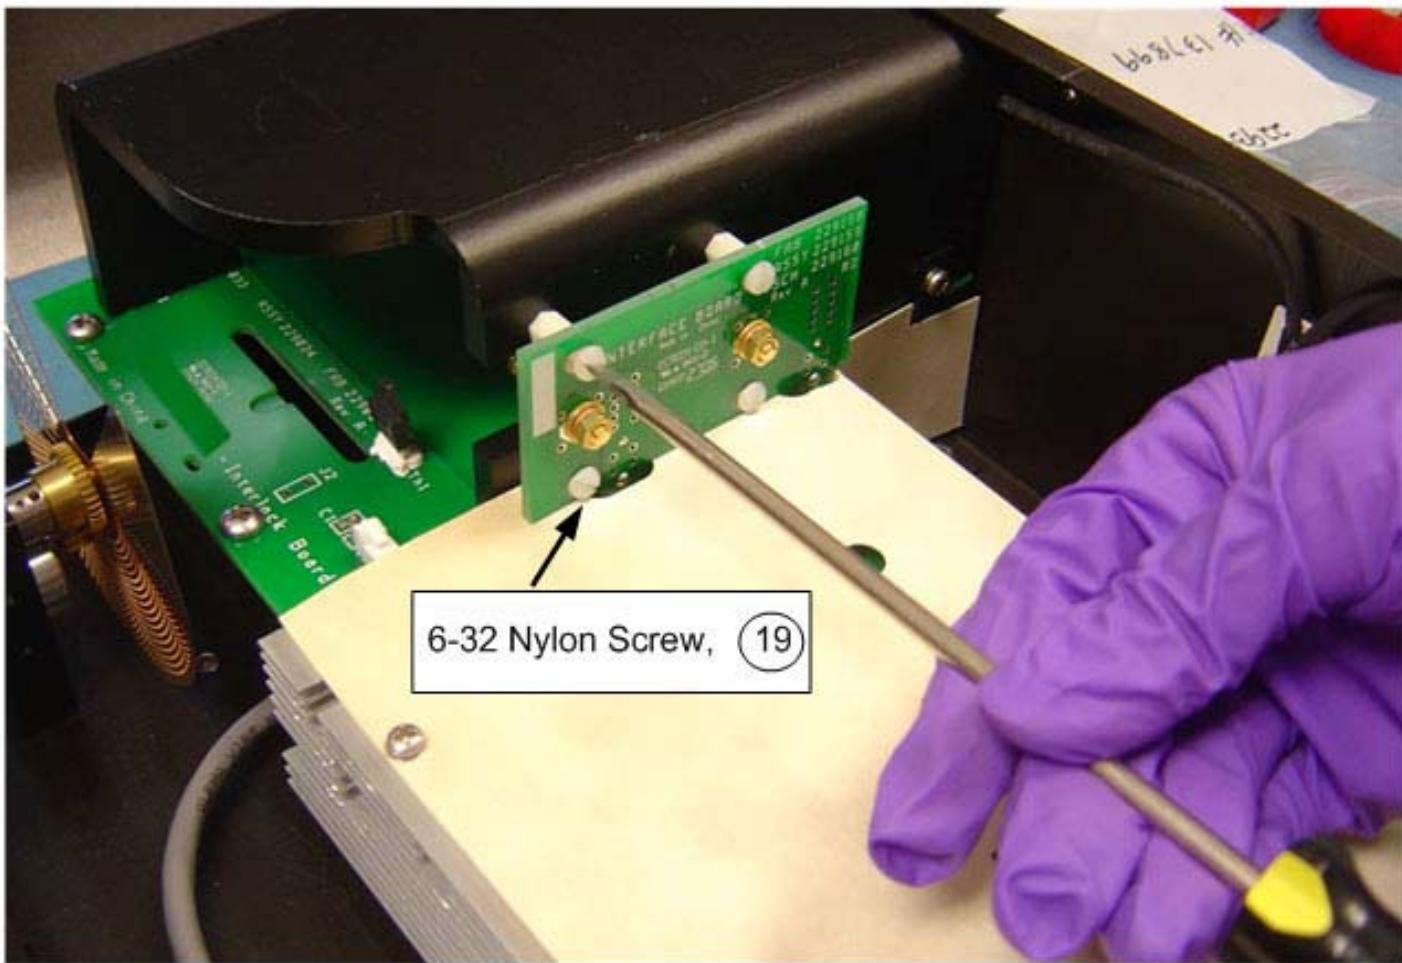

Figure 18
1. Remove the four 6-32 nylon screws on the interface board – Fig. 18.